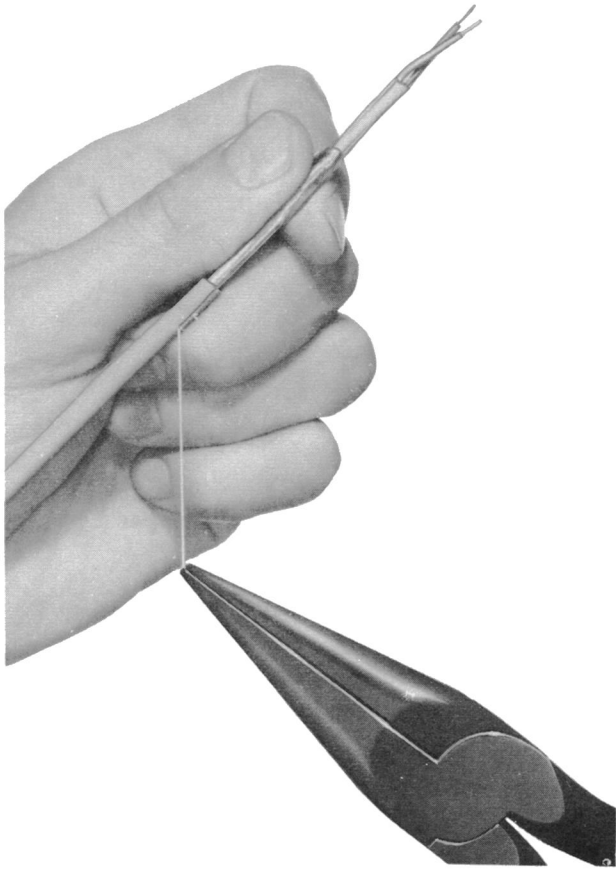

Fig. 9 — Stripping SK Wire
- (1) Slit end of jacket with diagonal pliers for approximately 1 inch.
- (2) Locate jacket-splitting nylon cord under jacket.
- (3) Grasp wire firmly in one hand and, using long-nose pliers, pull nylon cord through jacket to the desired stripped length (Fig. 9).